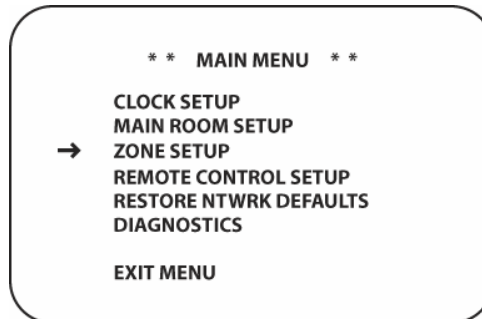

Figure 100 Main Menu
3. Press the **MENU Button [oval 44]** on the remote. The MAIN MENU will appear. (**Figure 100**)